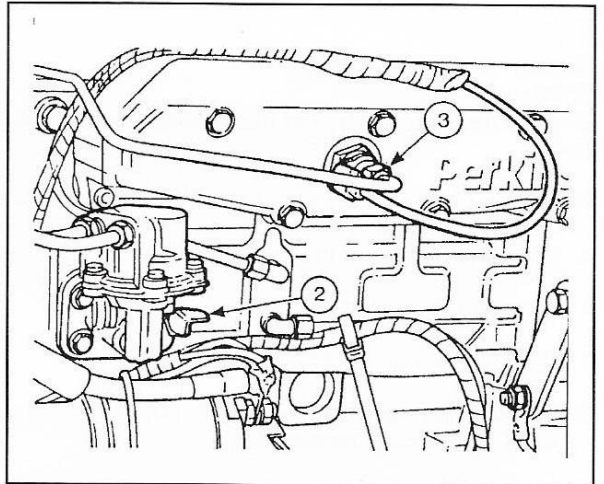

Fig. 80
3. Close the tap and then actuate the lift pump (2, Fig. 80) to refill the filter with fuel.
2. Operate the hand priming lever (see 2, Fig. 80) on the fuel lift pump until fuel, free of air bubbles, issues from the union, then retighten the union.
7. Slacken the thermostart fuel feed pipe (3, Fig. 80) at the thermostart and operate the fuel lift pump until fuel, free of air bubbles, issues from the pipe, then retighten the pipe.